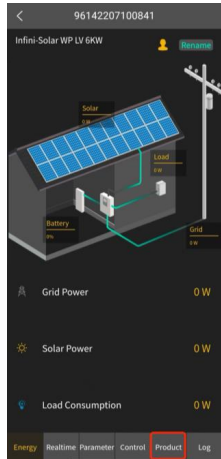
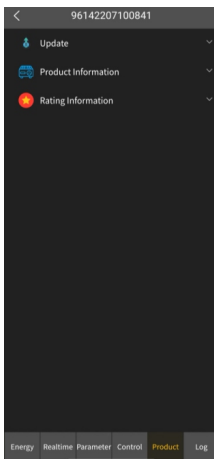

Figure 1
Figure 2
2. Click the "Product" button marked in red square in Figure 1 to enter the Product Screen, as shown in Figure 2.
3. Click the "v" icon marked in red on the right side of the "Update" in Figure 1 to open the collapsible panel, as shown in Figure 2.